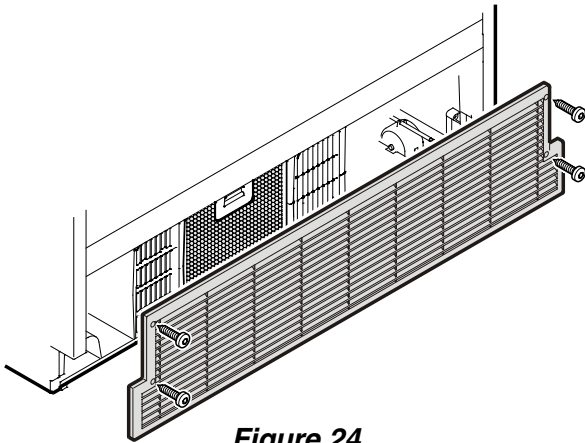

Figure 24
- Open the bottom freezer drawer and unscrew the ventilation grille - **Figure 24**.